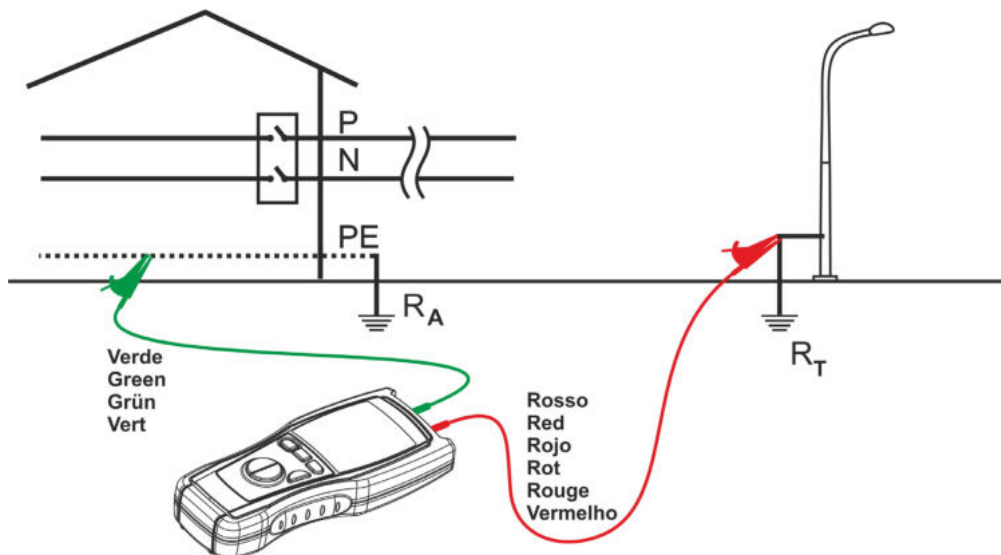
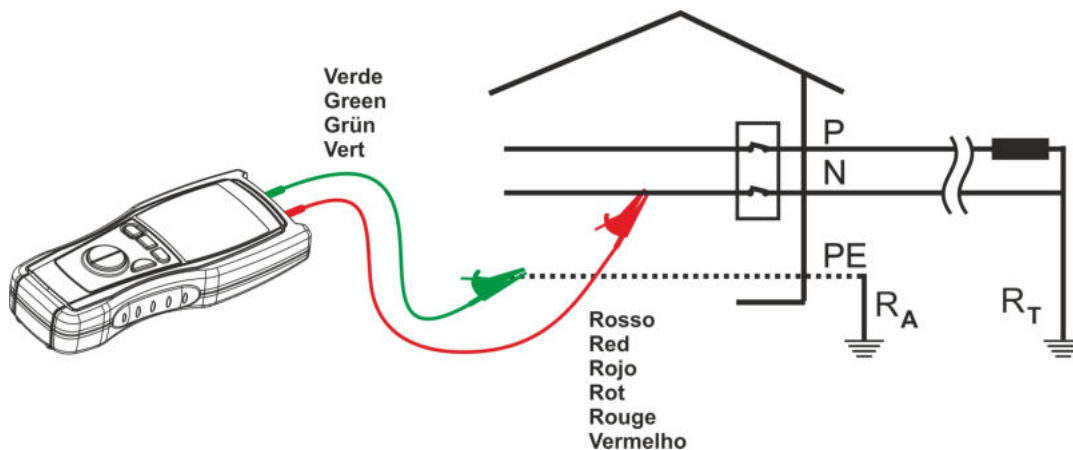

Fig. 3: Example of instrument's wiring for two-wire earth measurement
Fig. 4: Example of instrument's wiring for 2-wire earth measurement (only for TT systems).
- In Fig. 3 a lamp post is used as auxiliary rod. However a water pipe or any metal body driven into the ground is suitable provided that the above mentioned requirements are met
- Only in case of a TT system a neutral conductor can be used as auxiliary earth rod (see Fig. 4).
7. Connect the instrument's terminals to the circuit under test (see Fig. 4 and Fig. 3).